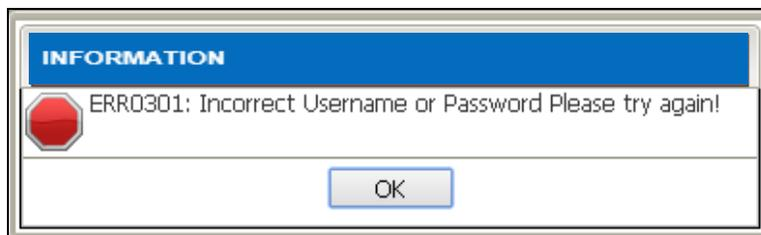

Figure 3.1-24 Alert Message Incorrect Username or Password
- The system will display an alert as Figure 3.1-24 if the Username/Password entered is incorrect.